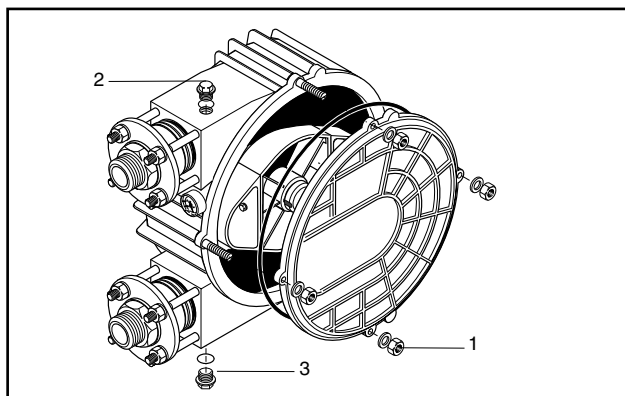

Fig. 13 Pump head
3. Unscrew plug (item 2, Fig. 13), unscrew cap from oil drain valve (item 3, Fig. 13), screw on fitting and drain lubricating fluid into a container.
4. Unscrew the 4 cover nuts (Pos. 1, Fig. 13), take off pump cover and O-ring and drain all lubricant from the pump housing into a collecting vessel.